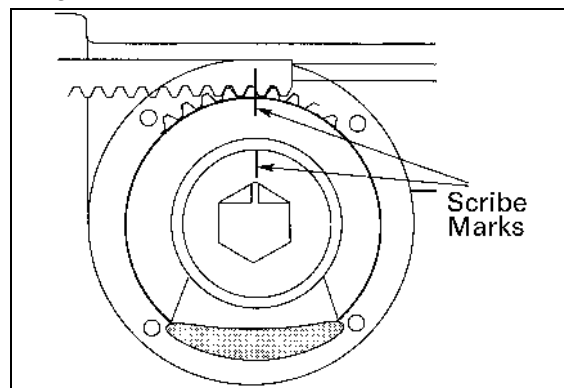

Figure 5 – Scribe Marks
11. Mark the teeth of the rack and gear as shown in Figure 5 and lift the gear sector out of the actuator.